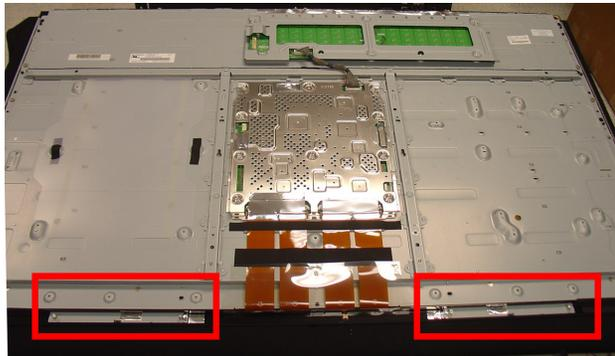

Figure 1
1. After removing the boards and connectors, note where the frame is on the panel. (Figure 1)